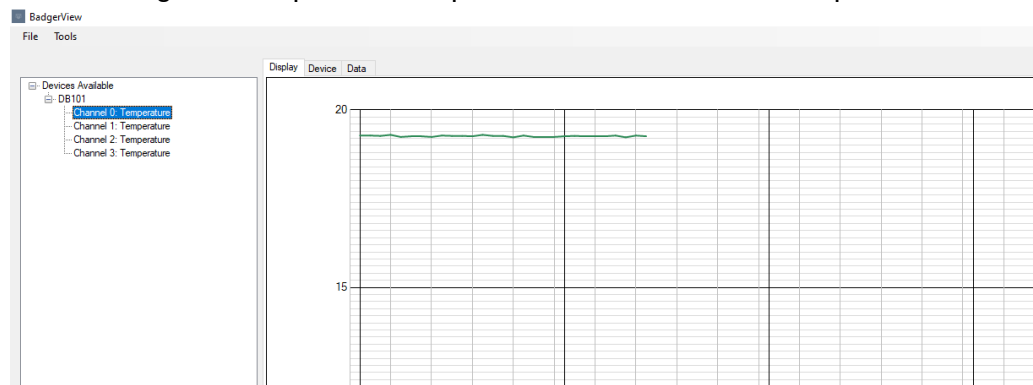

Figure 4: Displaying channel data
8. To view the data associated with any of the channel listed, right click the required channel and left click *Add*. The data will be displayed on the graph in the main panel, as shown in Figure 4. Repeat this step for each channel of data required.